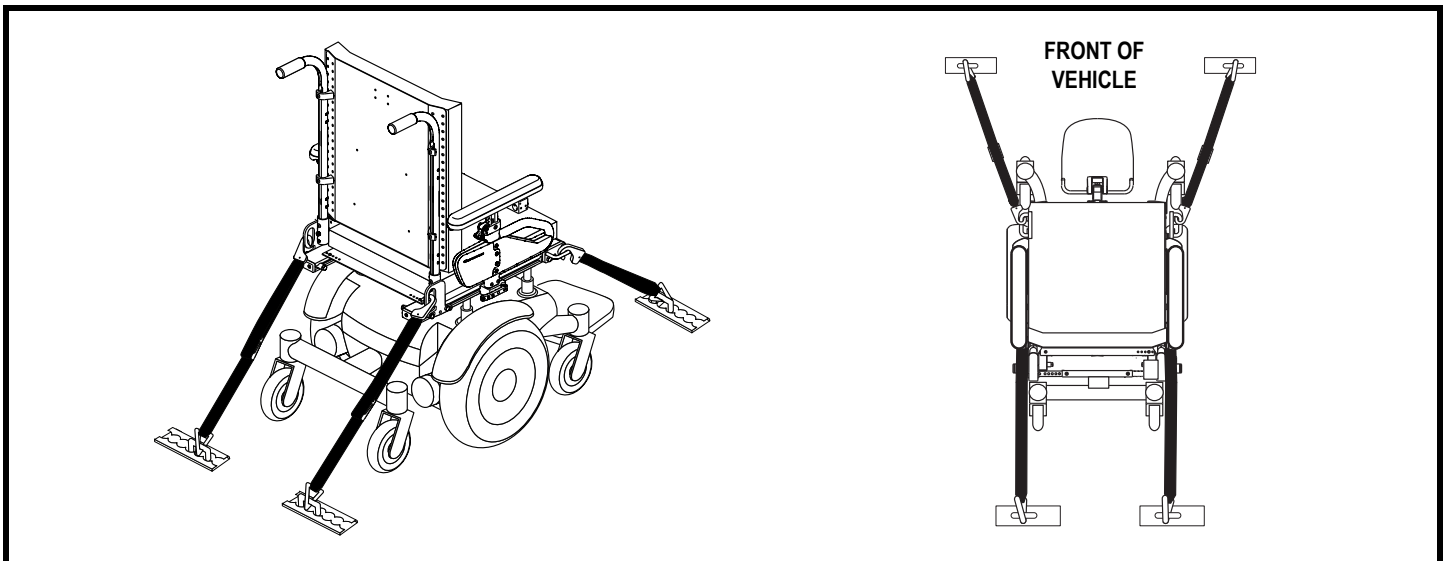

Figure 8. Unoccupied Transit System Securement Points
- Position the anchor points for the rear tie-down straps directly behind the rear securement points on the power chair. The front tie-down straps should be anchored to floor points that are spaced wider than the power chair to provide increased stability. See figure 8.